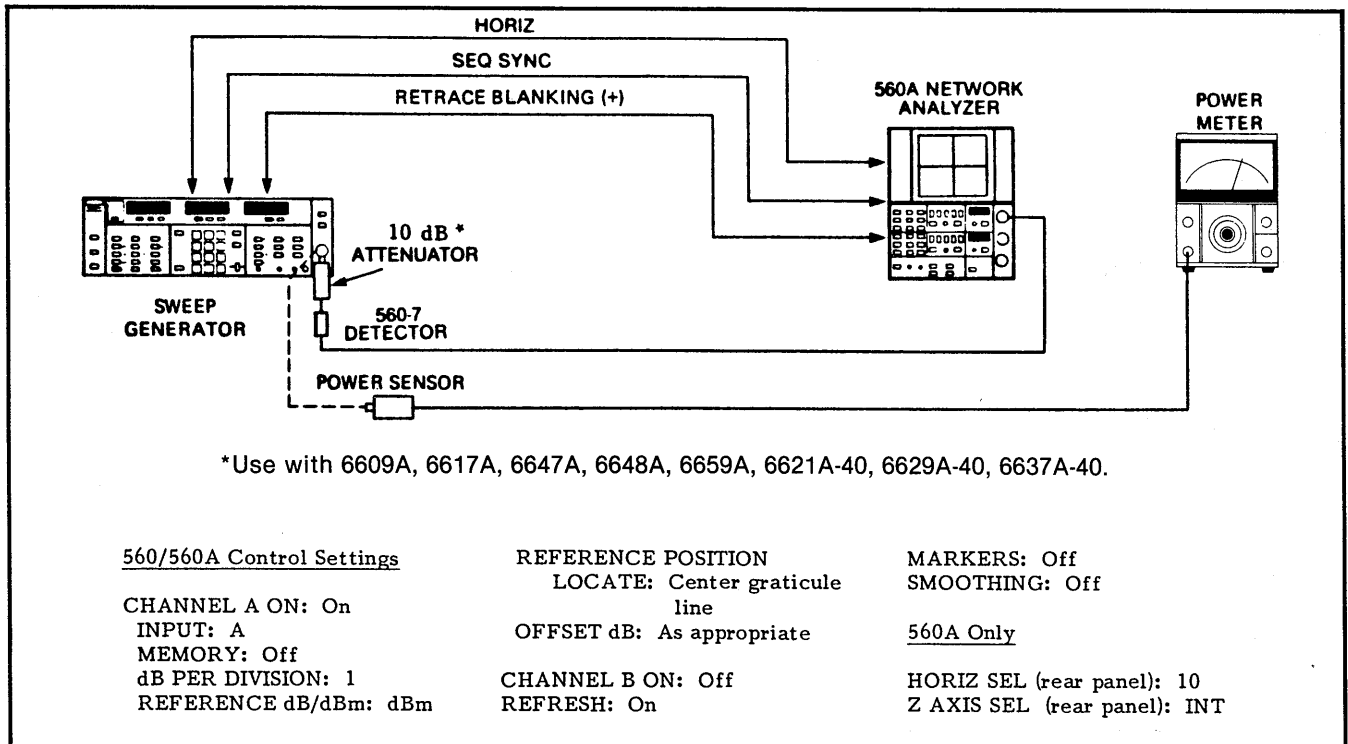

Figure 4-5. Test Equipment Setup for Output Power Tests
- Connect the test equipment as shown in Figure 4-5, and turn the equipment on.